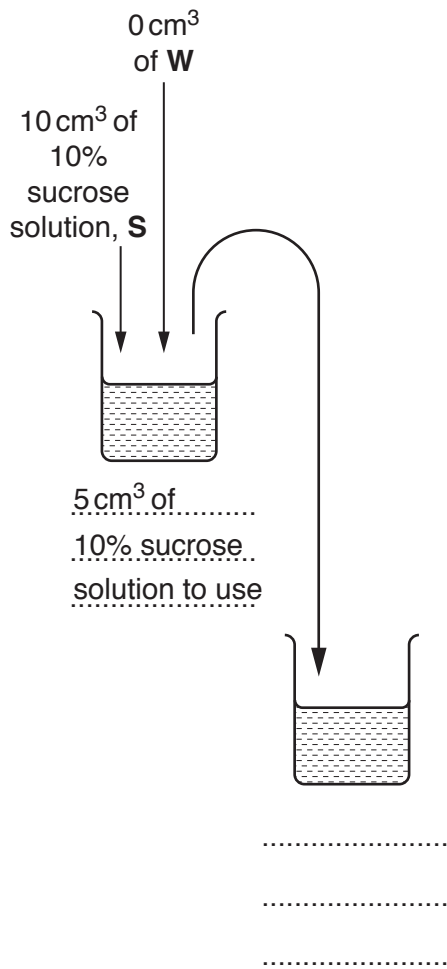

Fig. 1.1
Fig. 1.1 shows the first two beakers you will use to make your serial dilution.
- (i) Complete Fig. 1.1 by drawing as many extra beakers as you need for your serial dilution.
The first beaker in Fig. 1.1 has been labelled for you.
1. Prepare the concentrations of sucrose solution, as shown in Fig. 1.1.